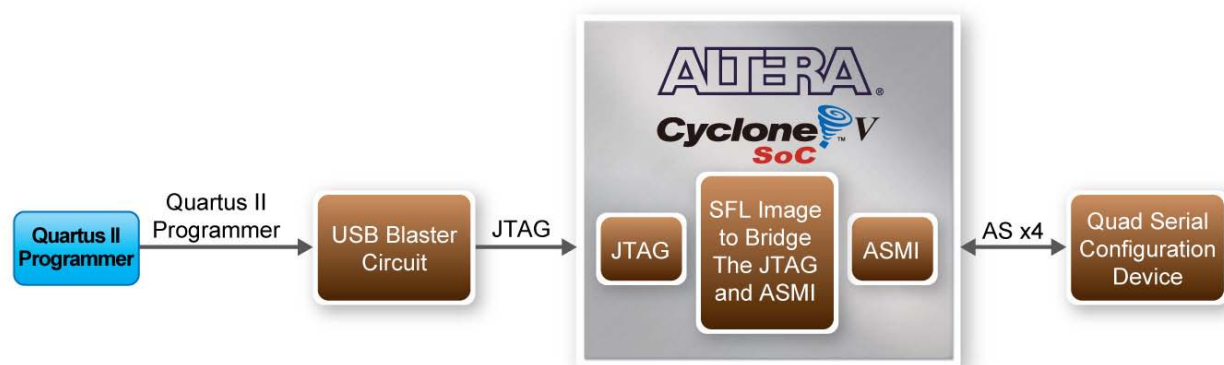

Figure 3-9 Programming a Quad Serial Configuration Device with the SFL Solution
- To program the configuration device, users will need to use a Serial Flash Loader (SFL) function to program the quad serial configuration device via the JTAG interface. The FPGA-based SFL is a soft intellectual property (IP) core within the FPGA that bridges the JTAG and flash interfaces. The SFL mega-function is available from Quartus II software. **Figure 3-9** shows the programming method when adopting a SFL solution